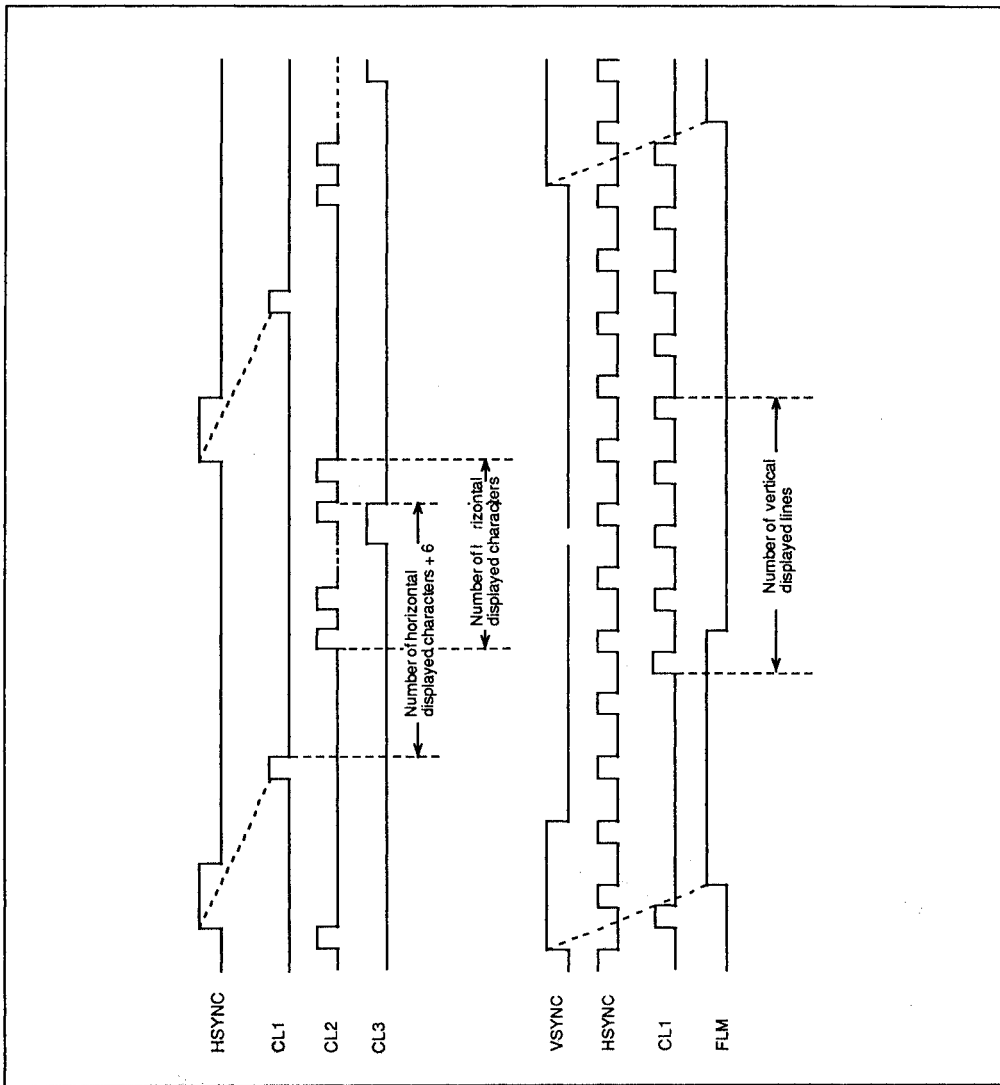

Figure 2-12 Timing of LCD Control Signals in Through Mode
Figure 2-12 is the timing chart of the LCD control signals in through mode. As shown in the figure, the CL1 signal period is identical to the HSYNC signal period, and the LCD frame frequency is identical to the CRT display frame frequency (the VSYNC signal frequency). Accordingly, the CRT display frame frequency must be set to 70 Hz in order to obtain a 70 Hz LCD frame frequency, which requires rewriting the value set in the CRT controller.
- The CL1 signal pulses for more than the number of specified displayed lines. (Refer to figure 2-12.)